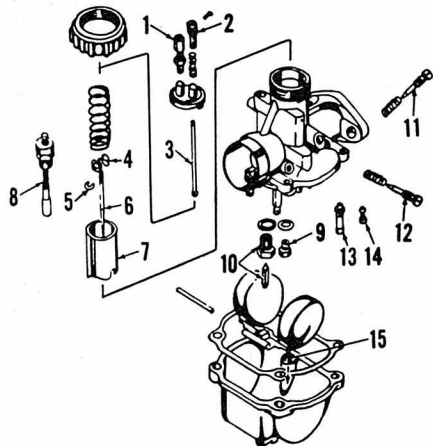

Fig. S4-1—Exploded view of typical VM type carburetor. Model VM20 SC uses a choke instead of starter valve shown.
**CARBURETORS.** All models use two Mikuni VM type carburetors. Model T10 uses VM20SC and S32-2 uses VM20SH. Fig. S4-1 shows typical VM carburetor. Refer to the following specifications.
On all models, idle mixture is adjusted at screw (11—Fig. S4-1). Idle speed is adjusted at screw (12) on T10 models with VM20SC carburetor, at adjuster (2) for other models. Carburetors must be synchronized to begin opening at the same time by adjusting guides (1) at top of each carburetor. Idle mixture for one carburetor is more easily adjusted after disconnecting spark plug wire from the other cylinder. Intermediate speed mixture can be adjusted by raising or lowering clip (5) on needle (6) from the normal position. Throttle cables should have 0.5-1.0 MM (0.02-0.04 in.) play at the carburetors. Cable play must be the same for both carburetors.